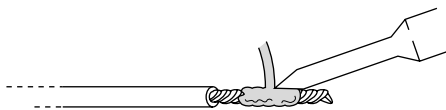

FIGURE 8-10: Solder flowing into twisted wires
4. After a few seconds, feed solder into the tip/wire junction until melted solder flows into the twisted bare wires (see Figure 8-10).